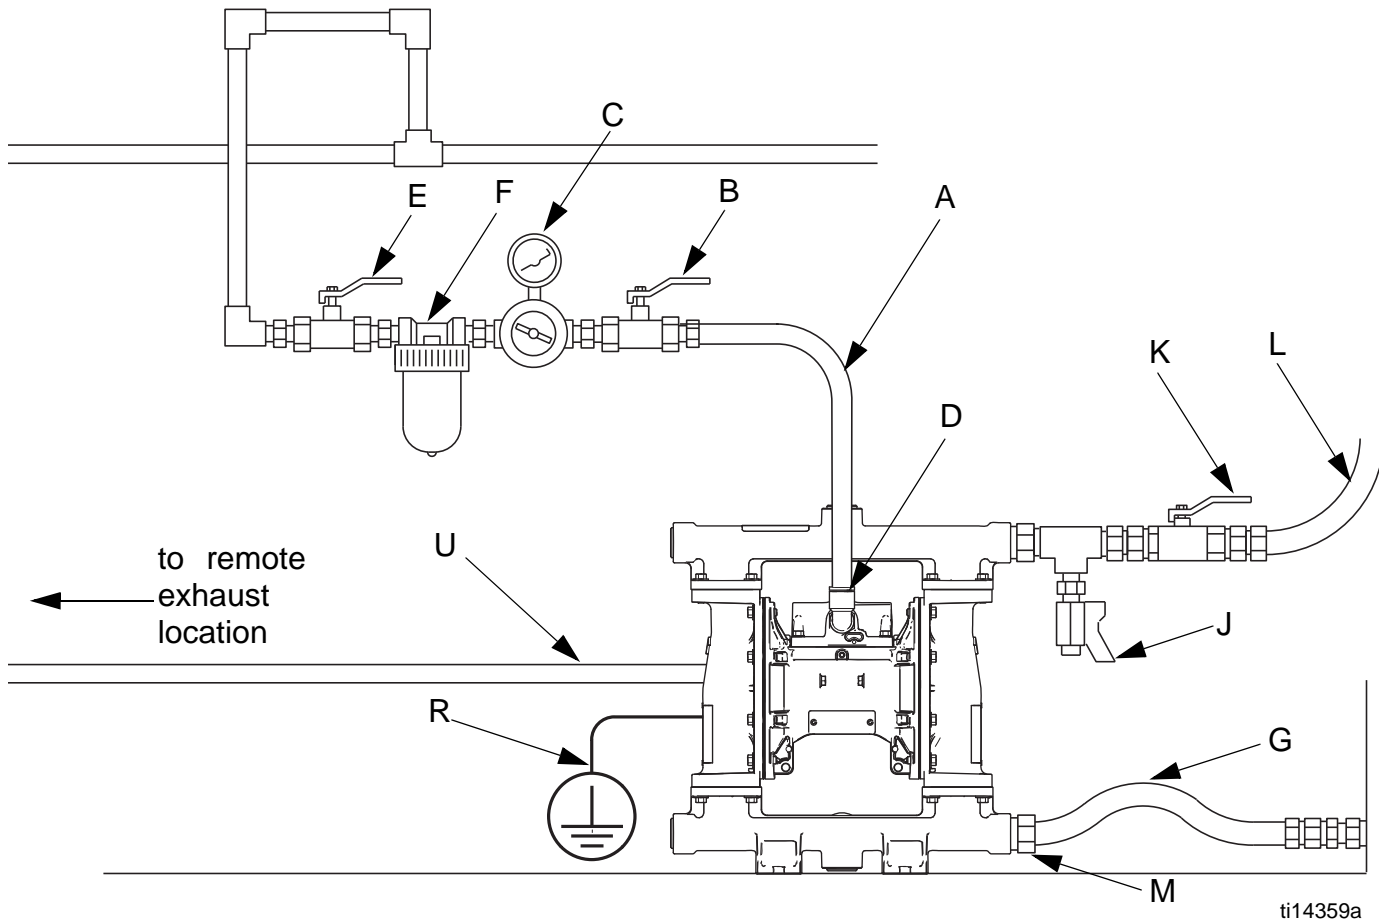

Fig. 3. Typical Installation
- The Typical Installation shown in FIG. 3 is only a guide for selecting and installing system components. Contact your Graco distributor for assistance in planning a system to suit your needs.
2. Mount in an upright, horizontal position as shown in FIG. 3.
See FIG. 3, page 11.
3. Locate another bleed-type master valve (E) upstream from all natural gas line accessories and use it to isolate them during cleaning and repair.
4. A filter (F) removes harmful dirt and moisture from the compressed gas supply.
5. Install a grounded, flexible gas hose between the accessories and the 1/2 in. npt(f) pump inlet (D). See FIG. 3. Use a minimum 1/2 in. (13 mm) ID hose.
See FIG. 3.